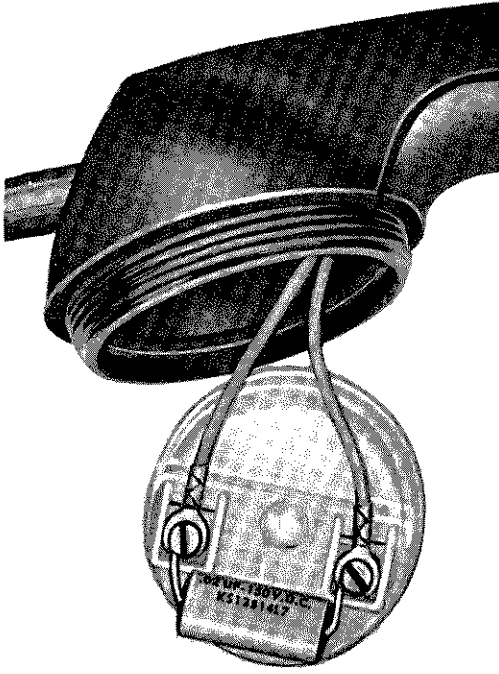

Fig. 6 - KS-13814, List 7 Capacitor,
2.06 The KS-13814, List 7 capacitor may be placed inside the G-type hand set to bypass the transmitter unit as shown in Fig. 6. Place the capacitor against the transmitter cup, keeping the capacitor leads as short as possible.